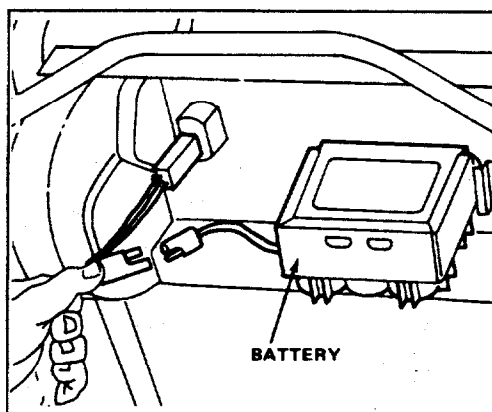

Figure 31
1. Stop engine and disconnect wire harness from battery terminal (Fig. 31).